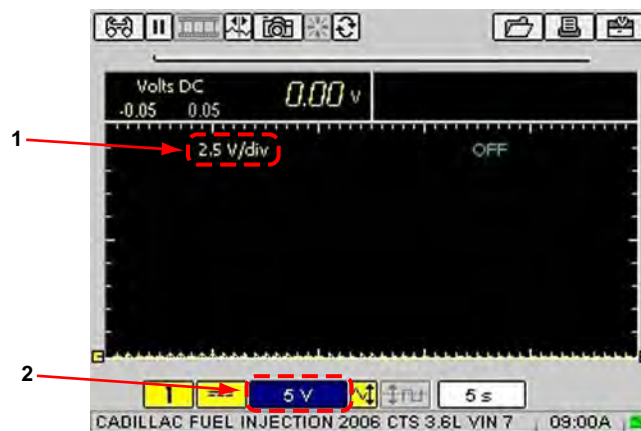

Figure 5-37 Setup, Units, Factory Default sample screen
The **Display As** dropdown menu sets how the scale units are displayed on the Scale button and in the Channel Status area (Figure 5-37).
- **Factory Default**—the Channel Status area displays the Units/Division for all active channels and the Scale button displays the full scale value (Figure 5-37).